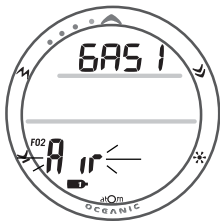

Fig. 42 - SET FO2 GAS1
- Depressing and holding the S button while the Set Point is flashing will scroll the Set Points from AIR (Fig. 42) to 21 through 50% in 1% increments, at a rate of 8 per second.